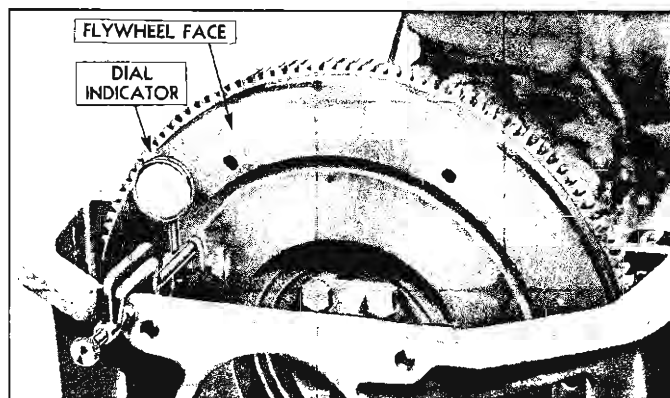

Fig. 54—Checking Flywheel Runout
5. On all except Powerglide models, mount a dial indicator on the clutch housing so that the button of the indicator will contact the machined surface of flywheel (fig. 54), and check the flywheel runout.